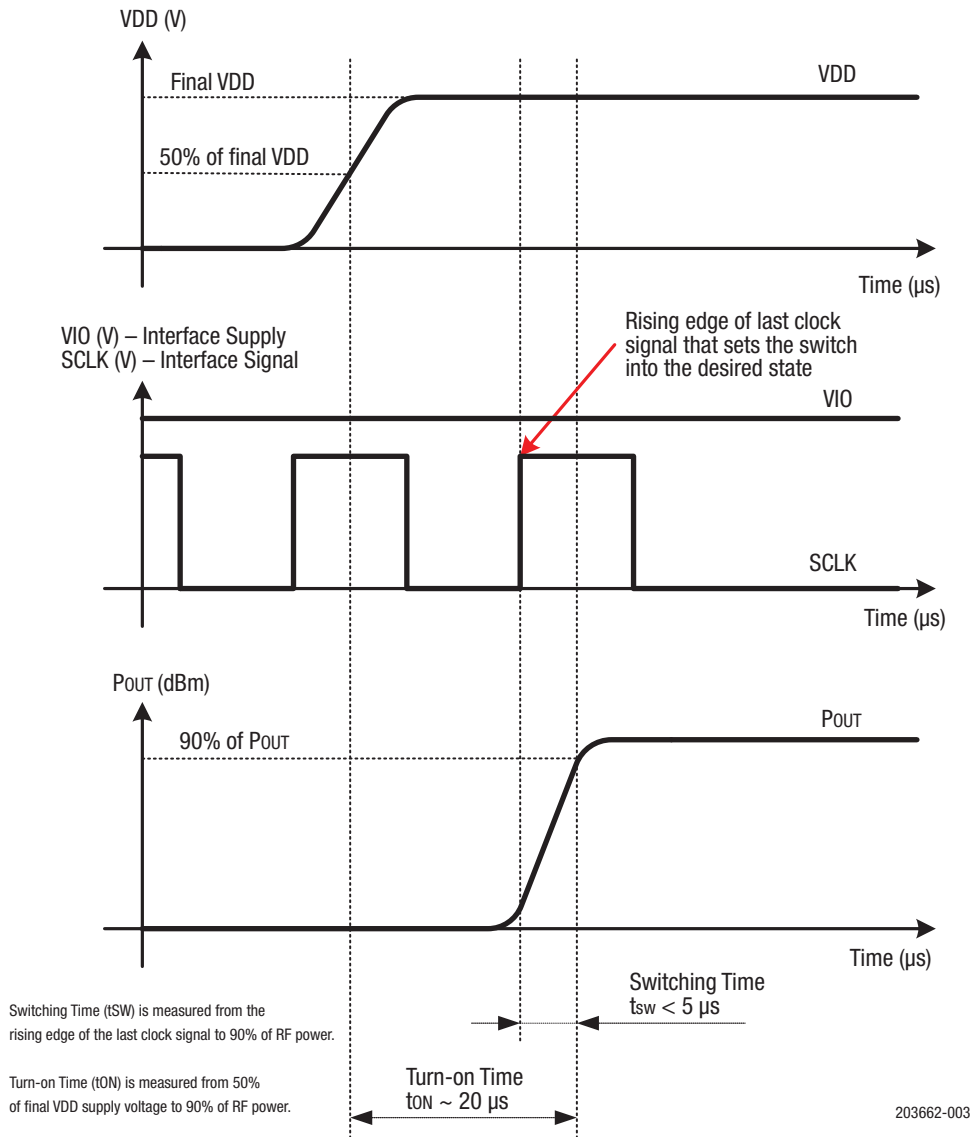

Figure 3. SKY13488-31 Timing Diagram
Figure 3 shows a timing diagram. Figure 4 illustrates the test setup used to measure intermodulation products. This industry standardized test is used to simulate the WCDMA Band 1 linearity of the antenna switch. A +20 dBm continuous wave (CW) signal, f_{FUND} , is sequentially applied to the TRX1 through TRX10 ports, while a -15 dBm CW blocker signal, f_{BLK} , is applied to the ANT port.